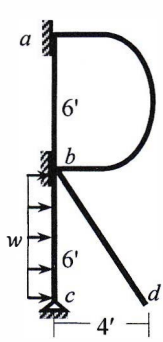

Fig.6
6. Frame structure *abcd* shown in **Fig.6** is subjected to a dynamic load, $w = 10t$ (k/ft). Use *Constant Average Acceleration (CAA)* Method to calculate the rotation of joint *c* at time $t = 0.10$ sec [Given: $EI = 10^4$ $k-ft^2$, $\mu = 0.005$ $k-sec^2/ft^2$, Damping ratio of the system = 5%].